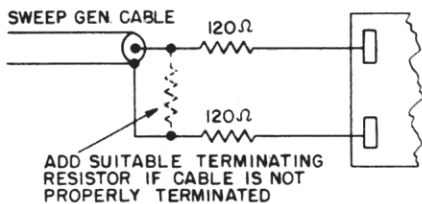

Fig. 24. Sweep Generator Termination
1. The input sweep signal is applied to the antenna terminal board at the r-f unit. Disconnect the 300-ohm cable between the antenna terminal board and the r-f amplifier input. To prevent distortion of the r-f response curve by standing waves, the unbalanced shielded cable of the signal generator should be terminated as shown in Figure 24. The resistors used should be non-inductive.
1. Disconnect the 300-ohm line at r-f head-end unit which connects to antenna terminal board. Connect sweep generator directly to head-end unit, properly terminating sweep generator output cable as shown in Figure 24. Keep leads from end of cable through the terminating resistors as short as possible.